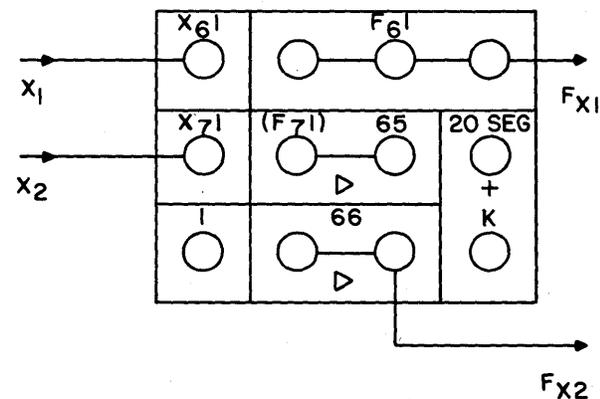

Figure 14. Diode Function Generator Patching.
(5) *Diode Function Generators.* Figure 14 shows the location of inputs  $X_1$  and  $X_2$  and the output terminals for  $FX_1$  and  $FX_2$ . This is the patching configuration for two ten-segment functions. If one twenty-segment function is desired, a green bottle plug is placed in the 20 SEG holes at the right. The two amplifiers (labelled 65 and 66 in figure 14) are made available for inverter service during 20 segment operation, they cannot be used in this manner unless the bottle plug is installed.